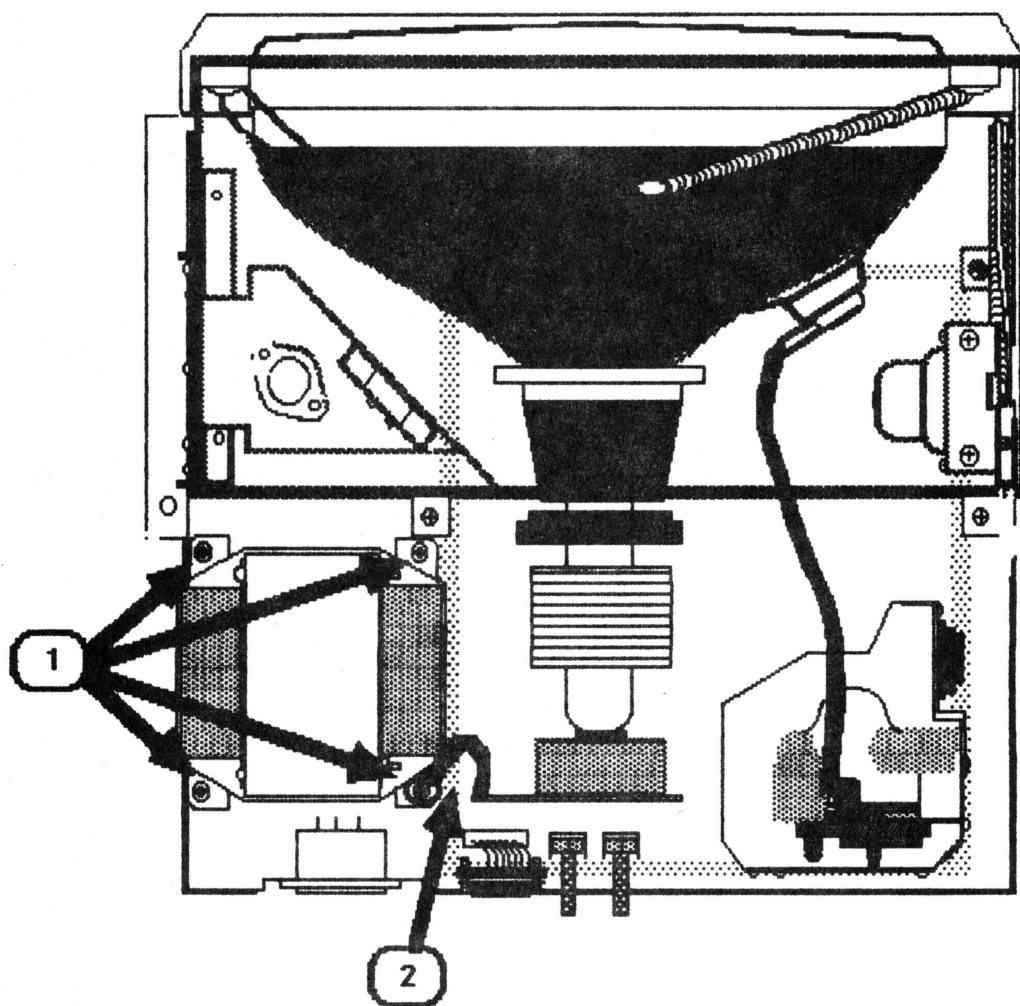

FIGURE 12
4. Remove the four power transformer mounting screws shown in Figure 12, #1.
2. Place the transformer over its mounting holes with the wires closest to the P/S board. (Figure 12, #1.)
3. Position the ground strap over the proper screw hole (Figure 12, #2) and secure the ground strap by tightening the screw over the strap.